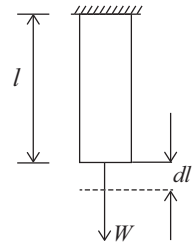

Figure 2.1
1. *Tensile stress*: It is illustrated in Fig. 2.1 where a tensile load W is applied to a uniform rod fixed at one end.